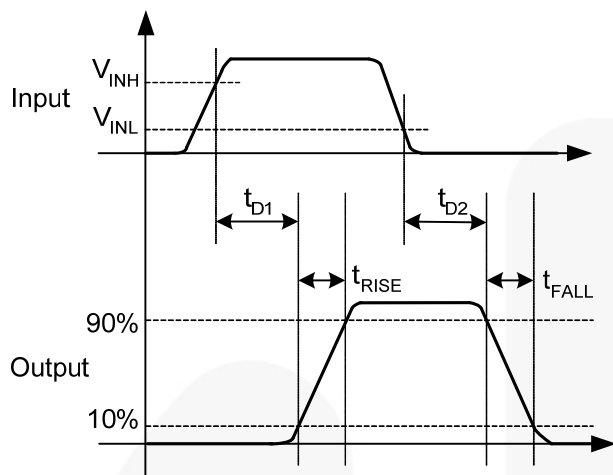
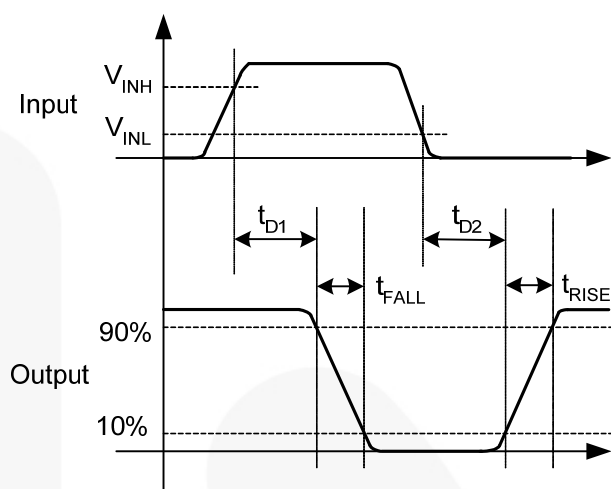

Figure 8. Non-Inverting (EN HIGH or Floating)
Figure 9. Inverting (EN HIGH or Floating)
13. See Timing Diagrams of Figure 8 and Figure 9.